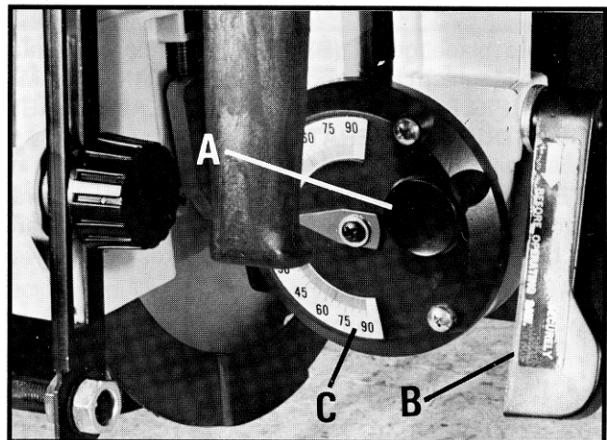

Fig. 57
Bevel index knob (A) Fig. 57, provides a positive stop when positioning the saw blade at zero, 45° and 90° left, and 45° and 90° right on the bevel scale (C). To change the angle of the saw blade loosen bevel clamp handle (B), pull out bevel index knob (A) and tilt saw blade and motor. For zero, 45° and 90° left, and 45° and 90° right positions, let go of bevel index knob (A) and saw blade will index at each of these positions. Then tighten bevel clamp handle (B). For saw blade angles between positive stops, set blade at desired angle on bevel scale (C) and tighten bevel clamp handle (B) Fig. 57.